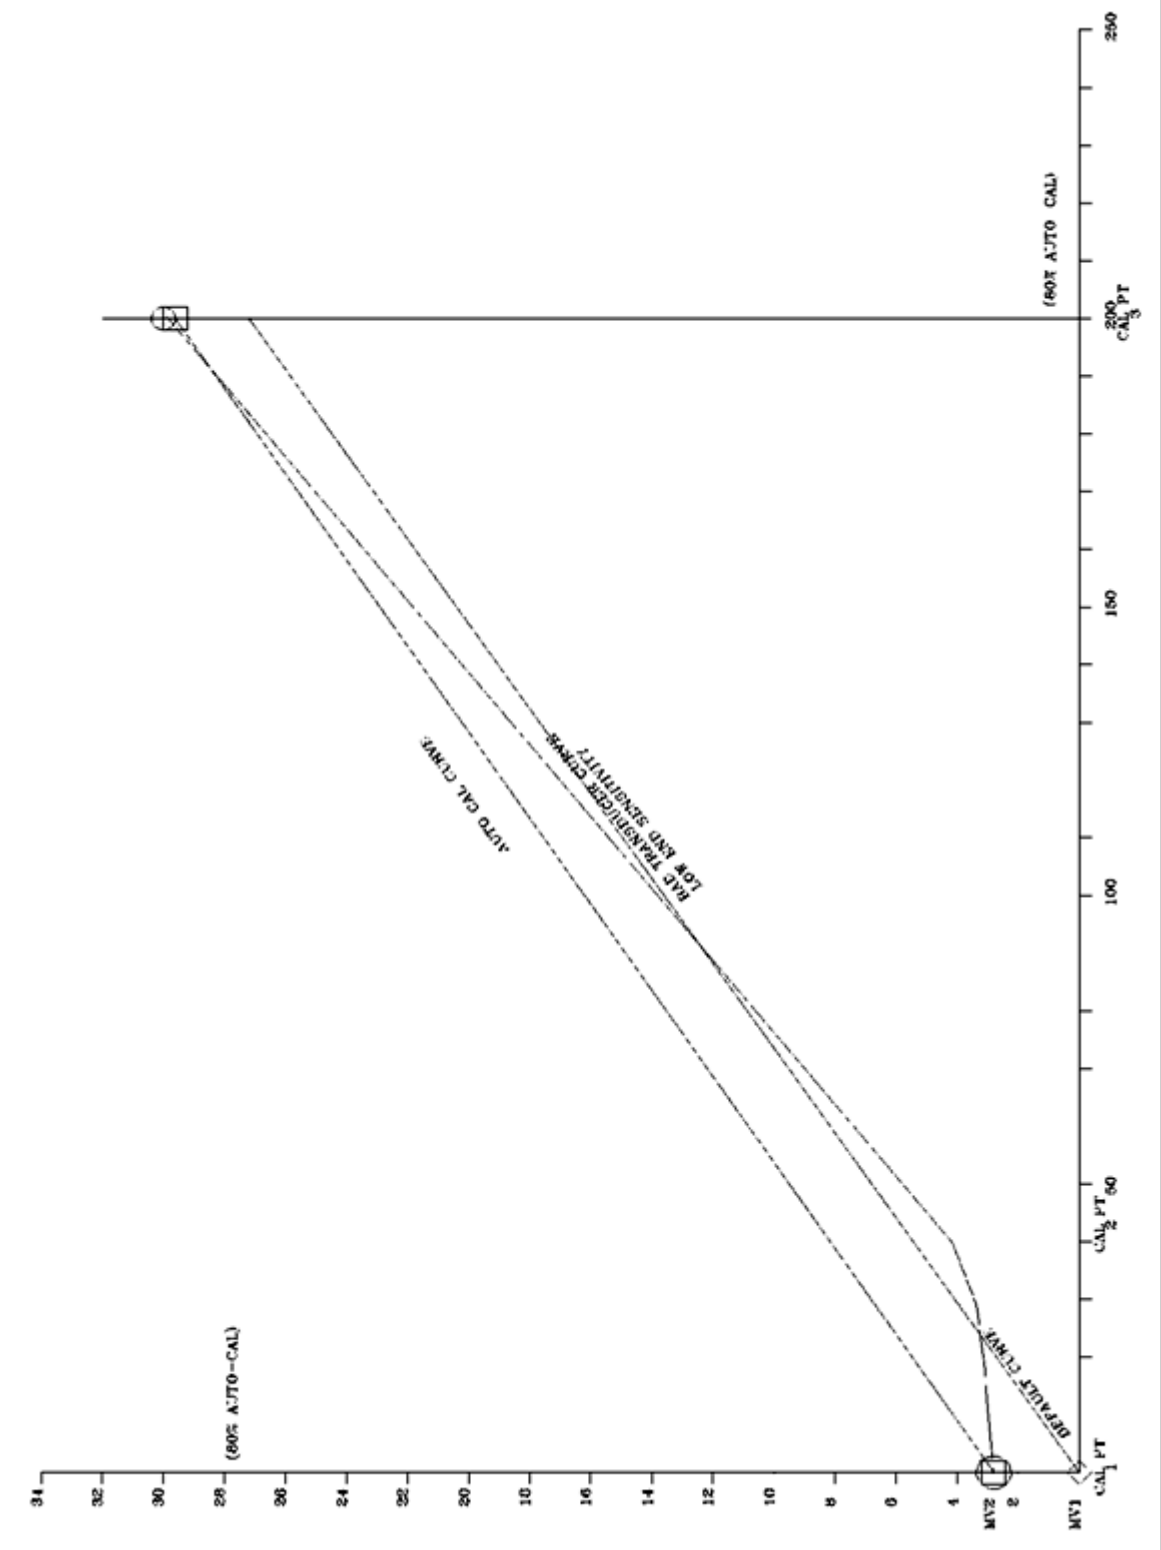

FIGURE 19 – Transducer Curves
Each transducer is calibrated individually. In the software, there are three transducer curves. These are (1) default, (2) auto-cal, and (3) manual-cal. These curves are shown in Figure 19. The “default” curve passes through 0 PSI/0 mV and the theoretical 100% of pressure and millivolts. This curve is used after a Factory default setting. The simplified equation is shown below: